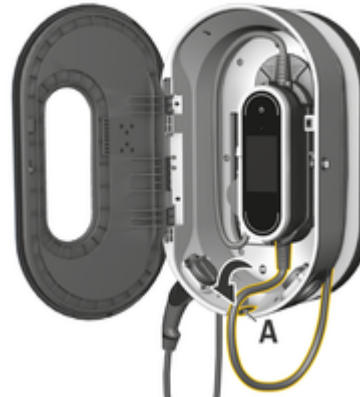

Fig. 41 Attaching the control unit
3. Guide the vehicle cable through the opening **A** (Fig. 41) and wrap any excess cable around the charging dock.